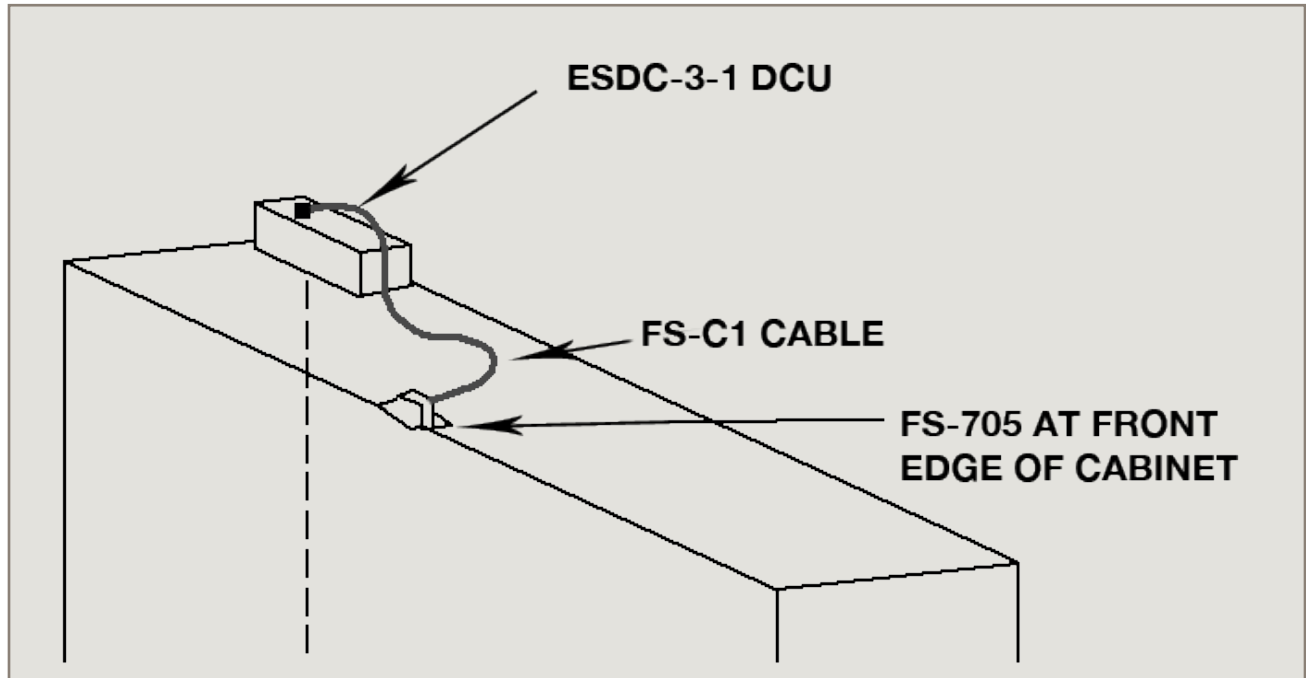

Figure 4: Mounting of the ESDC-3-1 DCU and FS-705 PIR sensor
2. Place the front edge of the FS-705 PIR sensor at the front edge of the cabinet (see Figure 4).